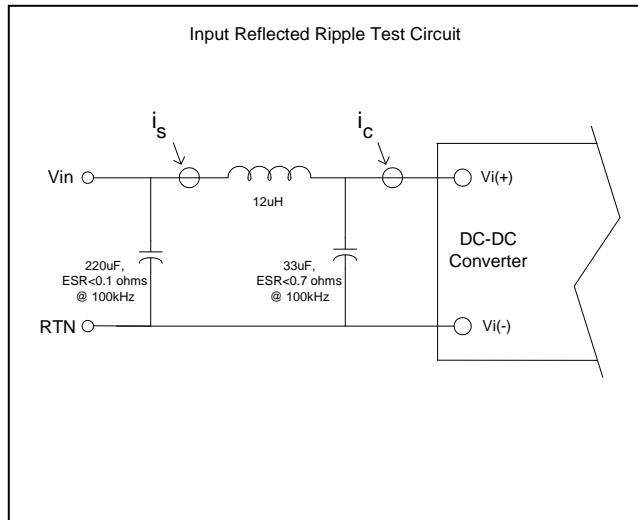

Figure 7 Test circuit used for input ripple current measurement
- (1) Vin = 48Vdc, Ta = 25 °C, Airflow = 200 LFM unless otherwise noted.
- (2) Input Reflected Ripple Current is specified when measured with the filter shown in Figure 7.
- (3) Output Ripple Voltage and noise is specified when measured with a 10uF tantalum and a 1uF ceramic capacitor at the converter output pins.
- (4) Transient response is specified without a capacitor at the output of the converter.
- (5) If remote sense is not required or used, the Sense(+) and Sense(-) pins must be connected to Vo(+) and Vo(-) respectively.
- (6) See 'Remote Sense' and 'Trim Feature' details regarding output voltage range limitations.
- (7) Thermal shutdown is monitored at the 'Thermal Measurement Location' (TML). See 'Mechanical Information' on page 4 for the thermal measurement location.
- (8) See 'Safety Considerations'.
- (9) De-rating curves are conducted in a controlled environment. End application testing is required to ensure the Thermal Measurement Location temperature is below the maximum specified.